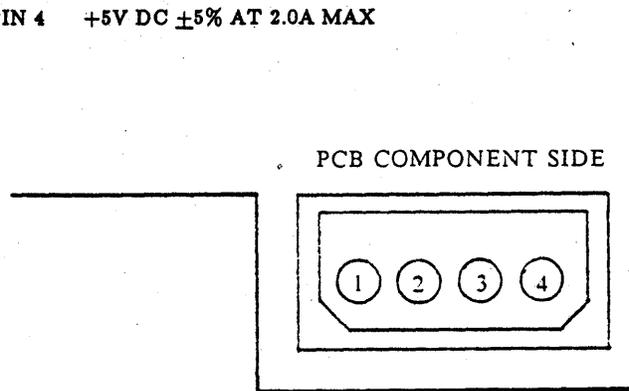

Figure 6-4. J3 Connector
6.2.3 The J3/P3 Connector: DC Power. The drive dc power connector is a 4-pin AMP Mate-N-Lok connector (AMP P/N 350211-1), mounted on the component side of the Servo PCBA. The recommended mating connector is AMP P/N 1-480424-0, utilizing AMP pins P/N 61314-4 (Strip) or P/N 60617-4 (Loose Piece). J3 pins are numbered as shown in Figure 6-4.